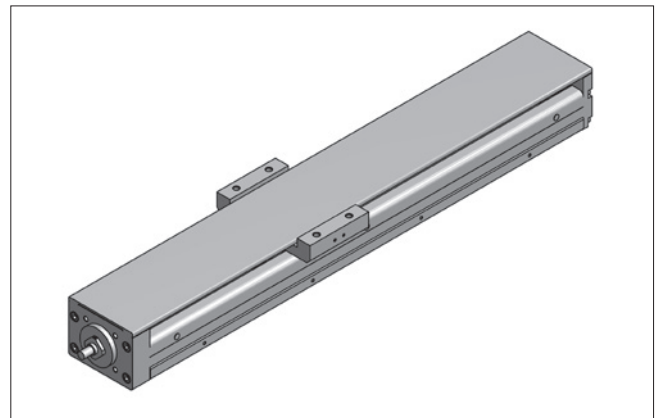

Figure 5.12 \_\_ AXBG with cover plate
- Optimal protection of the inside placed guiding and drive elements by the optional use of cover plates (Figure 5.12)